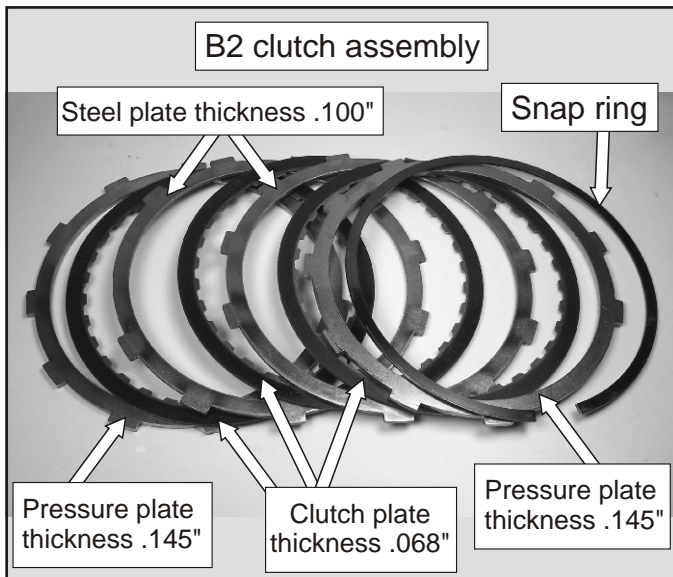

Figure 124
71. Assemble the B2 clutch assembly into the housing starting with the .145\" thick pressure plate, as shown in Figure 124, ending with the snap ring. Check the clearance between the top pressure plate and the top B2 clutch plate. The clearance should be between .025\"- .030\".